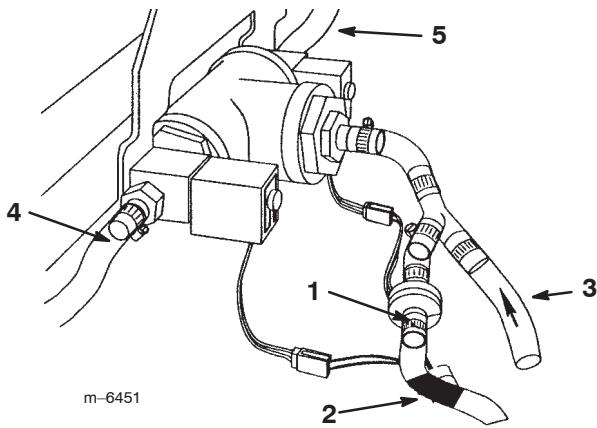

Figure 25
13. Ensure that the marked supply hose is connected at the compressor and the check valve. If not, correct it before using (Fig. 25).
- 15.** Secure both hoses with small hose clamps (Fig. 25).